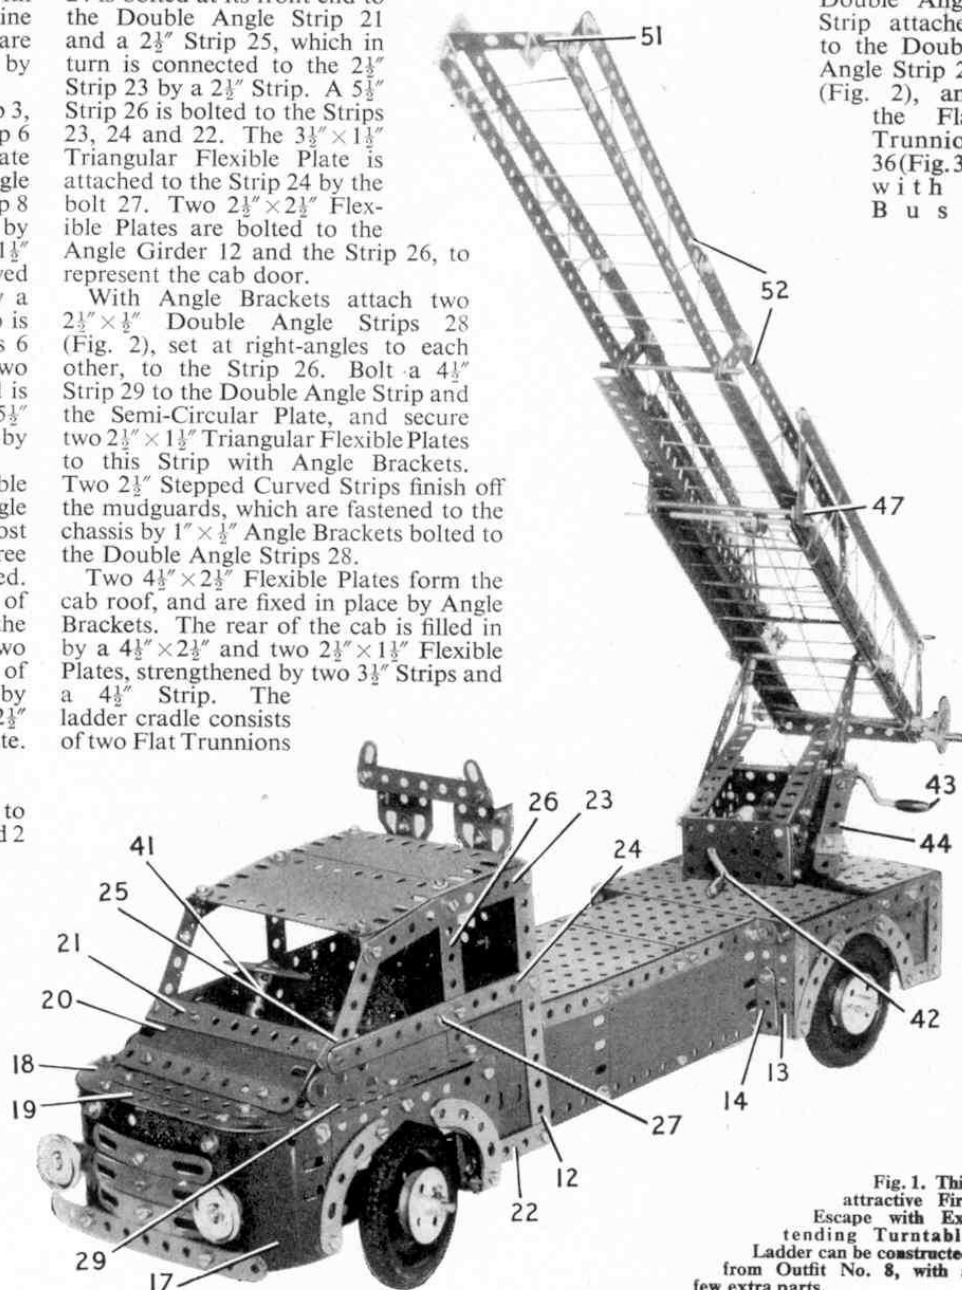
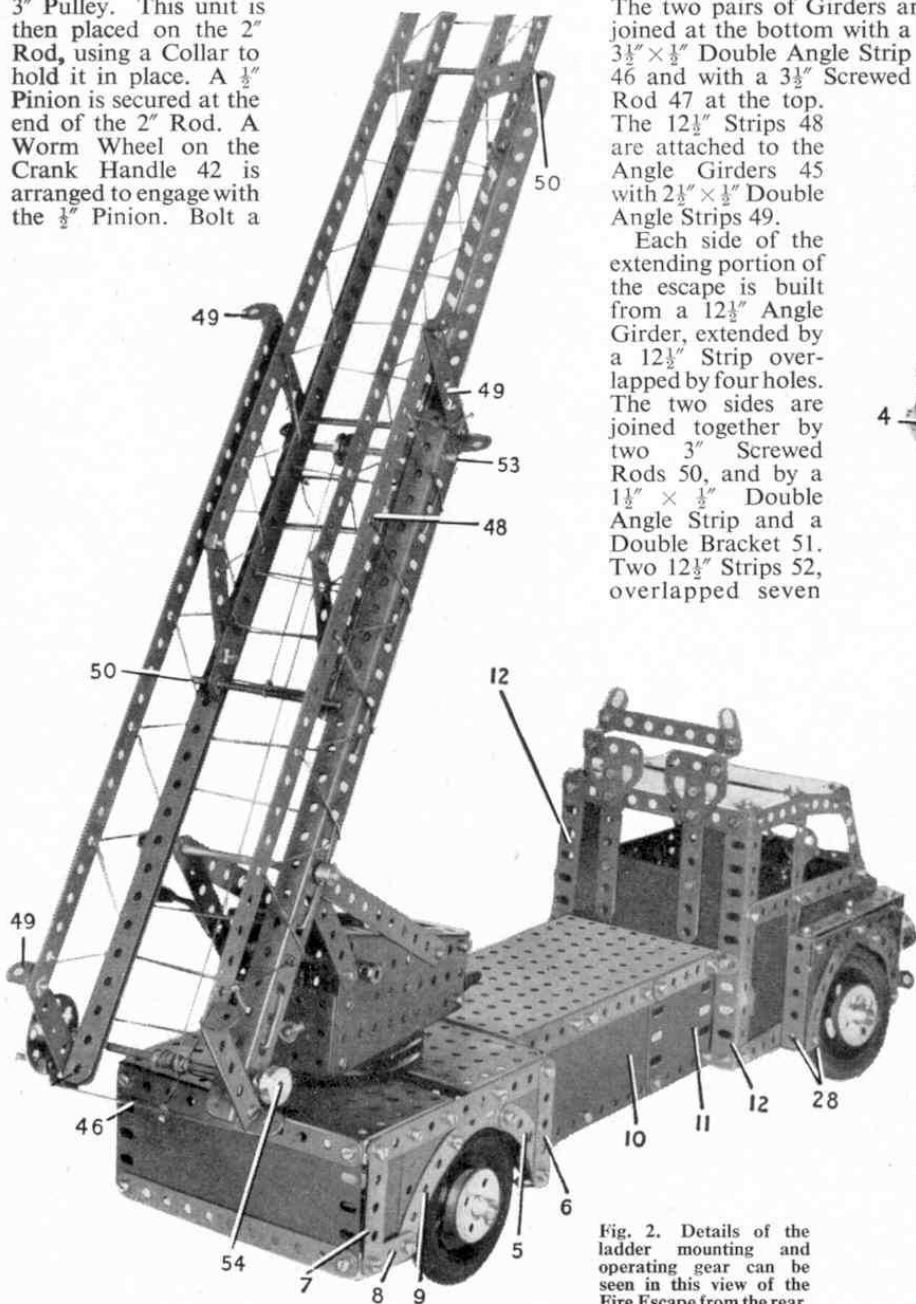
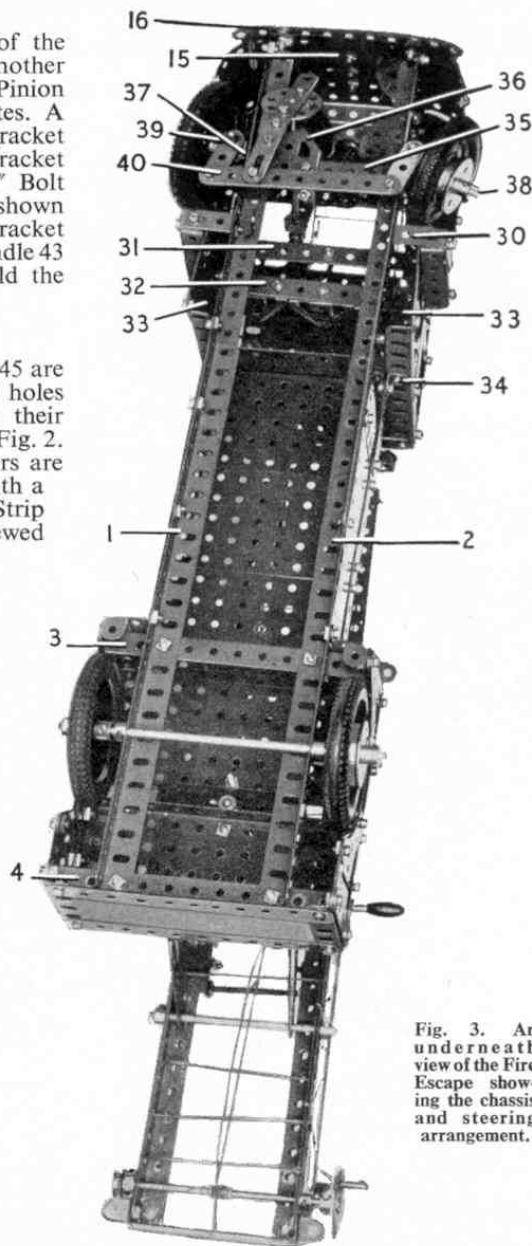

Fig. 1. This attractive Fire Escape with Extending Turntable Ladder can be constructed from Outfit No. 8, with a few extra parts.
Fig. 2. Details of the ladder mounting and operating gear can be seen in this view of the rear of the Fire Escape.
Fig. 3. An underneath view of the Fire Escape showing the chassis and steering arrangement.
**I**N building the model Fire Escape shown in Fig. 1, it is best to commence with the chassis. For this two compound angle girders 1 and 2 (Fig. 3) are required, and they are each built up with two  $1\frac{1}{2}$ " Angle Girders, overlapped nine holes. These compound angle girders are joined together at the rear ends by  $5\frac{1}{2}$ "  $\times$   $1\frac{1}{2}$ " Double Angle Strips 3 and 4.
To the lugs of the Double Angle Strip 3, a  $2\frac{1}{2}$ " Curved Strip 5 (Fig. 2), a  $2\frac{1}{2}$ " Strip 6 and a  $2\frac{1}{2}$ "  $\times$   $1\frac{1}{2}$ " Flexible Triangular Plate are bolted. The lugs of the Double Angle Strip 4, support a  $2\frac{1}{2}$ " Strip 7, a  $1\frac{1}{2}$ " Strip 8 and a  $2\frac{1}{2}$ "  $\times$   $1\frac{1}{2}$ " Flexible Plate, extended by a  $2\frac{1}{2}$ " Curved Strip 9 and a  $2\frac{1}{2}$ "  $\times$   $1\frac{1}{2}$ " Triangular Flexible Plate. The Curved Strips 5 and 9 are joined together by a  $2\frac{1}{2}$ " Stepped Curved Strip. A  $5\frac{1}{2}$ " Strip is bolted to the upper ends of the Strips 6 and 7, and the same bolts secure two  $5\frac{1}{2}$ "  $\times$   $2\frac{1}{2}$ " Flanged Plates. The rear end is a  $5\frac{1}{2}$ "  $\times$   $2\frac{1}{2}$ " Flexible Plate edged by  $5\frac{1}{2}$ " Strips, and it is attached to the sides by Angle Brackets.
A  $5\frac{1}{2}$ "  $\times$   $2\frac{1}{2}$ " and a  $2\frac{1}{2}$ "  $\times$   $2\frac{1}{2}$ " Flexible Plate 10 and 11 are bolted to each Angle Girder 1 and 2, and to the uppermost edge, a  $5\frac{1}{2}$ " and a  $2\frac{1}{2}$ " Strip and three  $3\frac{1}{2}$ "  $\times$   $2\frac{1}{2}$ " Flanged Plates are attached. Angle Brackets are placed at each end of the compound strip; two are bolted to the  $5\frac{1}{2}$ "  $\times$   $2\frac{1}{2}$ " Flanged Plate and the other two to the  $5\frac{1}{2}$ " Angle Girders 12. The fronts of the rear mudguards are each formed by bolting a  $2\frac{1}{2}$ " Strip 13 (Fig. 1) and a  $2\frac{1}{2}$ " compound strip 14 to the Flanged Plate.
With Angle Brackets attach two  $2\frac{1}{2}$ "  $\times$   $1\frac{1}{2}$ " Double Angle Strips 28 (Fig. 2), set at right-angles to each other, to the Strip 26. Bolt a  $4\frac{1}{2}$ " Strip 29 to the Double Angle Strip and the Semi-Circular Plate, and secure two  $2\frac{1}{2}$ "  $\times$   $1\frac{1}{2}$ " Triangular Flexible Plates to this Strip with Angle Brackets. Two  $2\frac{1}{2}$ " Stepped Curved Strips finish off the mudguards, which are fastened to the chassis by  $1$ "  $\times$   $\frac{1}{2}$ " Angle Brackets bolted to the Double Angle Strips 28.
Bolt two  $4\frac{1}{2}$ " compound strips 31 and 32 (Fig. 3) to the  $2\frac{1}{2}$ "  $\times$   $1\frac{1}{2}$ " Double Angle Strips 33 fastened to the Angle Girders by the Bolts 34. Fixed to the Strip 32 are two Trunnions. A  $3\frac{1}{2}$ " Strip 35 is bolted to the Angle Girders 1 and 2 and supports a Flat Trunnion 36. Secure two Double Brackets 37, to the Angle Girders 1 and 2, and fix in each of them a Coupling carrying a  $1\frac{1}{2}$ " Rod 38 and a Crank. The Cranks are connected together by means of a  $4\frac{1}{2}$ " Strip 40 lock-nutted to them at each end. A  $4\frac{1}{2}$ " Rod 41 is placed through a  $1\frac{1}{2}$ "  $\times$   $1\frac{1}{2}$ " Double Angle Strip attached to the Double Angle Strip 21 (Fig. 2), and the Flat Trunnion 36 (Fig. 3), with a Bush
3" and a  $5\frac{1}{2}$ " Strip to the sides of the Flanged Sector Plates and place another Crank Handle 43, with a  $\frac{1}{2}$ " Pinion attached to it, in the Sector Plates. A  $2\frac{1}{2}$ " Strip 44 with an Obtuse Angle Bracket at one end, is bolted to a Double Bracket that is pivotally mounted on a  $\frac{3}{4}$ " Bolt fixed in one of the Sector Plates as shown in Fig. 1. The Obtuse Angle Bracket contacts the  $\frac{1}{2}$ " Pinion on Crank Handle 43 and forms a ratchet device to hold the ladder in position when raised.
Two pairs of  $12\frac{1}{2}$ " Angle Girders 45 are bolted together by their elongated holes leaving a gap between their other flanges as seen in Fig. 2. The two pairs of Girders are joined at the bottom with a  $3\frac{1}{2}$ " x  $\frac{1}{2}$ " Double Angle Strip 46 and with a  $3\frac{3}{8}$ " Screwed Rod 47 at the top. The  $12\frac{1}{2}$ " Strips 48 are attached to the Angle Girders 45 with  $2\frac{1}{2}$ " x  $\frac{1}{2}$ " Double Angle Strips 49.